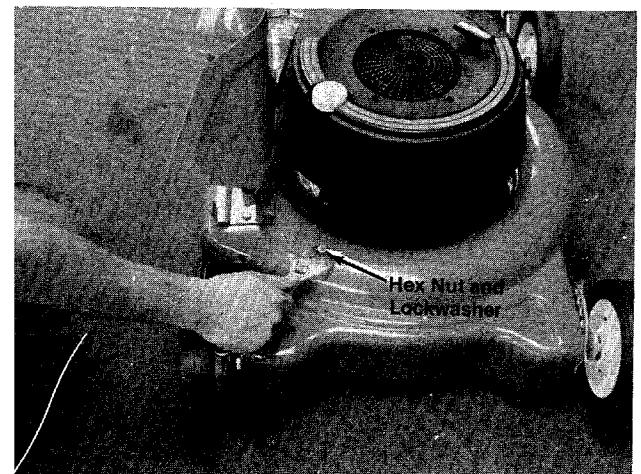

FIGURE 9.
- C. The hex nut and other lockwasher secure the front of the mulching baffle to the deck. See figure 9.